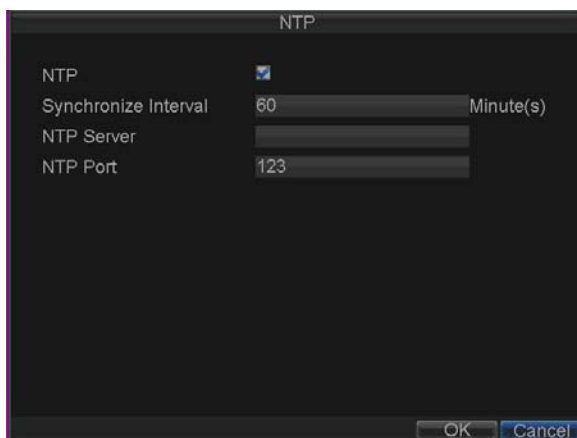

Figure 8. NTP Settings Menu
3. Click the *Set* button next to **NTP** to enter the NTP Settings menu, as shown in Figure 8.